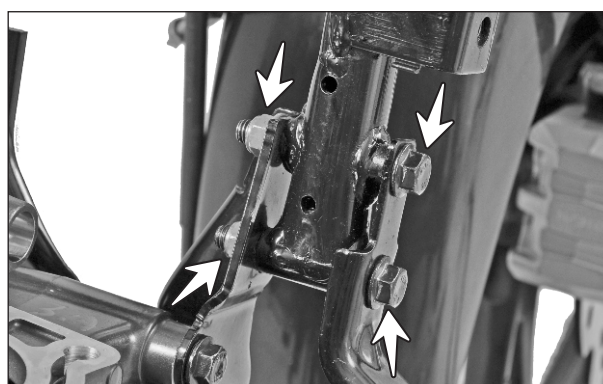

Fig. 3.135
- Remove the hexagonal flange bolt (M8x55 - 2 nos.) from the mounting of bracket crash guard RH and take out the bracket. (Fig. 3.135)